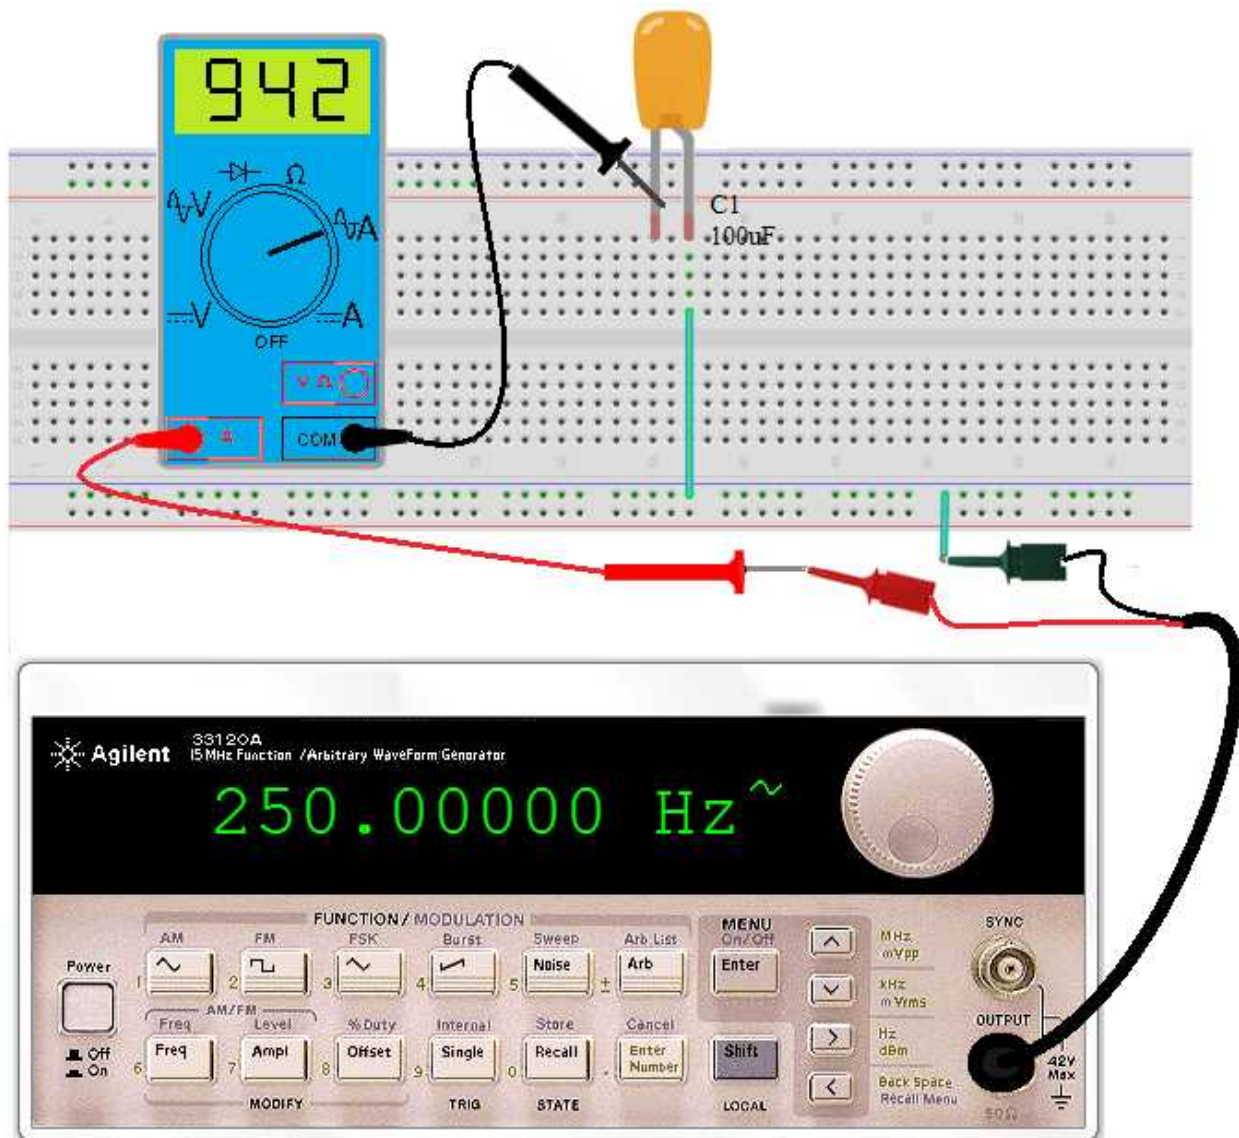

Figure 2-48: Behavior of a capacitor at constant voltage and variable frequency circuit connection
1. Connect a 220nF (no polarized) capacitor in series with ammeter and signal generator as shown in the circuit connection figure 2-48.